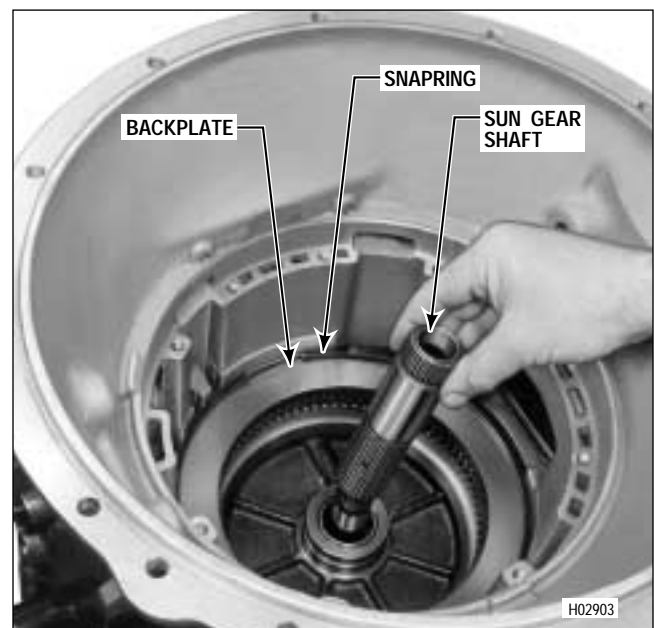

Figure 5-16. Removing Sun Gear Shaft Assembly (Models Without Retarder)
(2) Remove the sun gear shaft (Figure 5-16).
- For models without retarder, proceed with Step (1).
- For models with retarder, skip Steps (1) and (2) and proceed with Step (3).
(1) Remove the snapping that retains the third clutch backplate (Figure 5-16).
(2) Remove the backplate (Figure 5-16).